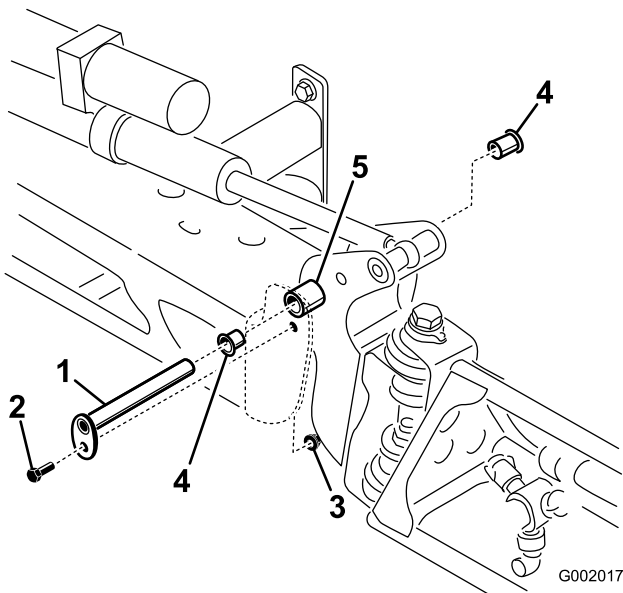

Figure 53
- With the weight of the boom supported, remove the bolt and nut securing the pivot pin to the boom assembly (Figure 53). Remove the pivot pin.
- Remove and inspect the nylon bushings from the front and back sides of the pivot bracket (Figure 53). Replace any damaged bushings.
- Install the boom and pivot bracket assembly into the center frame, aligning the openings (Figure 53).